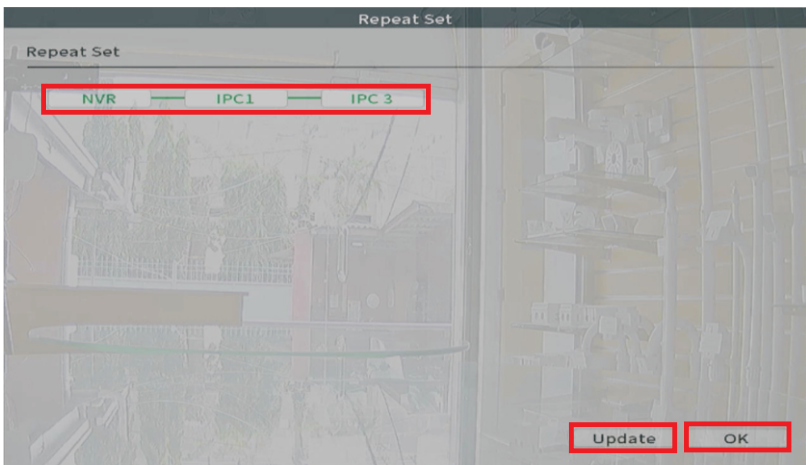

Figure 6. Client camera (IPC3) is connected to repeater camera (IPC1).
- If the setting is successful, the client camera (IPC3) is connected to the repeater camera (IPC1). See Illustration on Figure 6.
8. If not successful, repeat step 5, 6 and 7. Click on Update and OK buttons to check the configuration and to apply the settings. See also Figure 6.